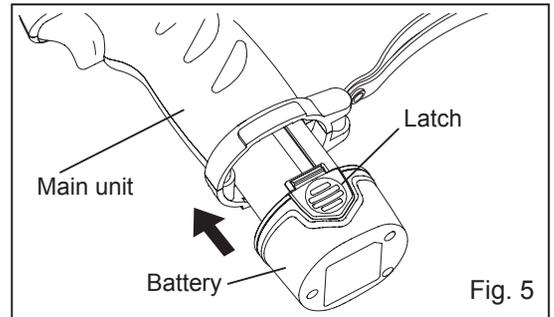

Fig. 5
4. Remove the battery from the charger, and attach it to the main unit. (Fig. 5)